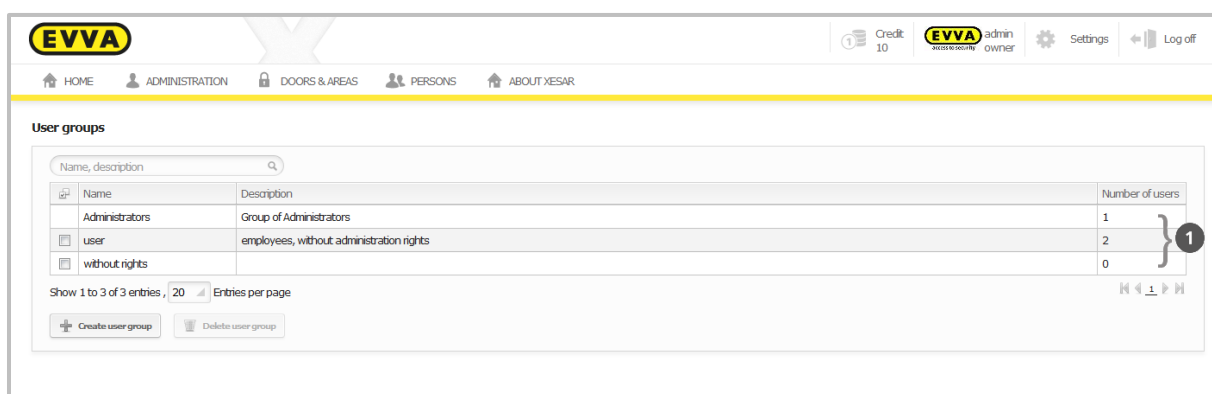

Figure 63: User groups
The **Number of users** section ① (Figure 63: User groups) shows the number of users assigned to the corresponding user group.